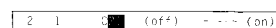

Fig.8.
- 5 Select, if necessary, a video input source (EXT) with  $\Delta$ + or  $\nabla$ -. Then press OK. The first element of the CH position will be highlighted. (See Fig. 8.)